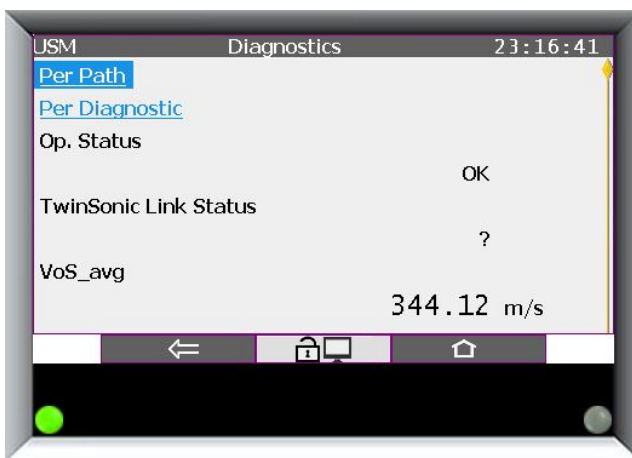

Figure 7-11: General Diagnostics Screen
- ▶ Press the select arrow  to open the diagnostics screen below, see Figure 7-11: General Diagnostics Screen